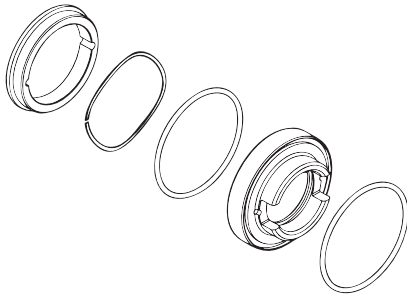

Figure 33
6. Assemble single seal and driver assembly. Insert the seal driver o-ring and the single seal o-ring into the seal driver. Insert the single seal spring into the seal driver. Then press the rotating single seal into the seal driver while noting that the notches in the rotating single seal line up with the seal driver pins. **Figure 33.**